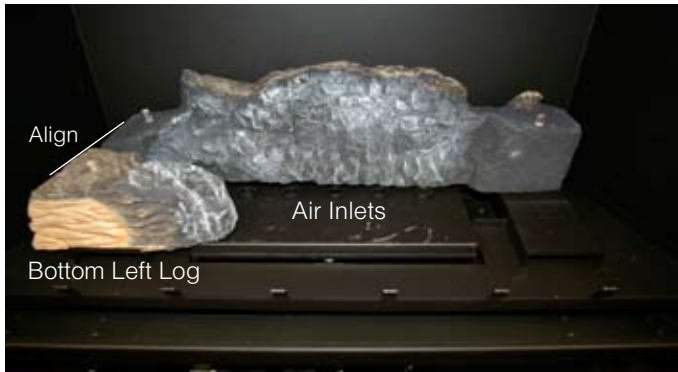

Figure 30b. Placing Bottom Left Log.
Step 3. Place the bottom Left log as shown in *figure 30b*.
Arrange the ember chips on top of the burner tray. Care should be taken when placing the embers, as blocked burner ports may cause an incorrect flame pattern, carbon deposits and delayed ignition. Also, the embers must never be placed in a way that obstructs any of the air inlet ports, located at the rear of the burner, as shown in *figure 30b*.